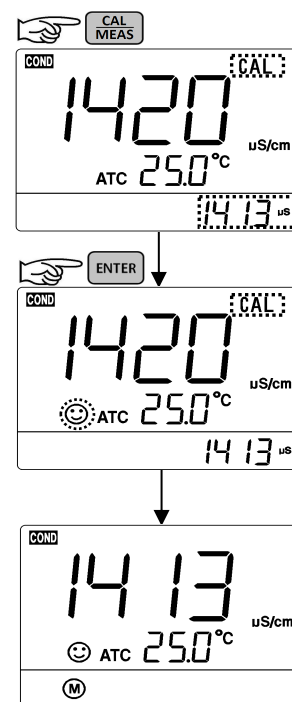

Figure-7
**4.4.3.** When the meter locks 1413  $\mu\text{S}$ , stable icon  will display on LCD. Press  key to complete calibration. “End” icon will show up and the meter will return to measuring mode and  will show up on the bottom left (see Figure-7).